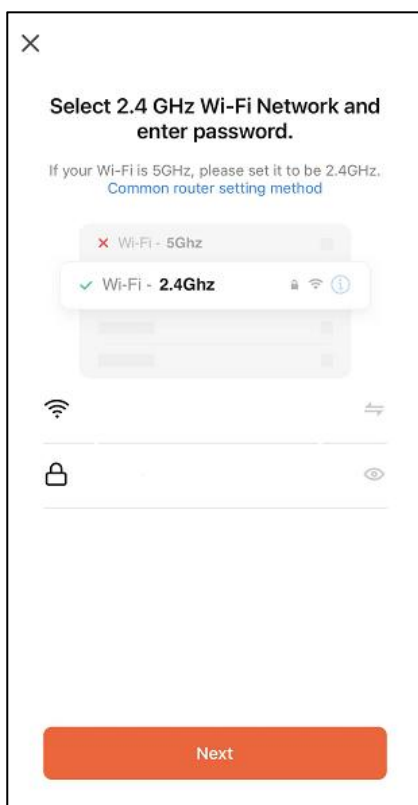

FIG.5
3. Press the flame button until the timer button flashes(FIG.4). Then confirm to go next to set your Wi-Fi account and password (FIG.5). Please make sure the Wi-Fi account and password you set are correct and Wi-Fi signal is good.